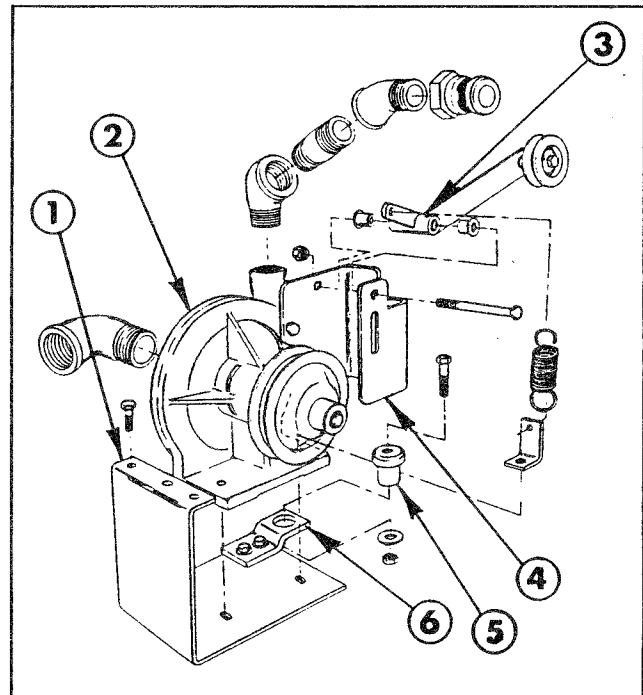
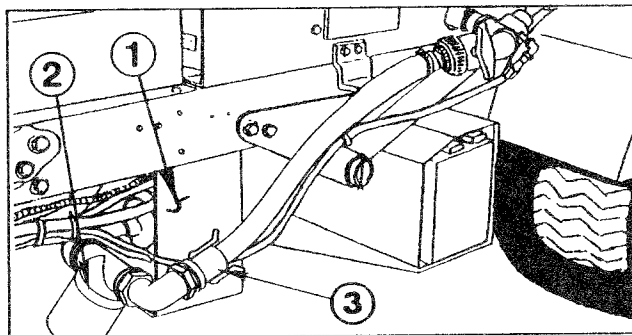

FIG. 2
FIG. 4
4. Attach the idler pivot bracket to the pump by removing the two pump housing bolts and replace with the (2) 3/8" x 1" hex hd. cap screws (FIG. 2).
5. Install one flange bushing into each end of the idler pivot assembly mounting hole and attach to the idler bracket using the 3/8" x 3" hex hd. cap screw and locknut (FIG. 2)
6. Mount the small inside idler pulley on the long arm of the idler pivot using the 3/8" x 2-3/4" hex hd. cap screw, 1-1/8" spacer, and locknut. Attach the tension spring to the short arm of the idler pivot assembly. See FIG. 2.
7. Next, apply sealer and install the 90 degree x 1-1/4" street elbow into the suction port of the pump. Apply sealer and install the 1"x 3" nipple, (2) 45 degree x 1" elbows, and quick adapter into the discharge port of the pump (FIG. 2).
8. Install the rubber mount into the tab mount and loose fit the tab mount to the pump mounting bracket using the (2) 3/8" x 1" hex hd. cap screws, flatwashers, and locknuts (FIG. 2).
9. Attach the pump mount bracket assembly to the left side of the vehicle frame using the (3) 5/16" x 1" hex hd. cap screws, lockwashers, and hex nuts (FIG. 4). Next, attach the tab mount to the crossmember using the 3/8" x 1-1/4" hex hd. cap screw, 3/8" I.D. 10 GA. flat washer, and locknut (FIG. 2). Tighten all fasteners securely.
11. Mount the pump and the spring tab to the mounting plate using the (2) 3/8" x 1-1/2" hex hd. cap screws, flat washers, and locknuts. Attach the spring to the spring tab located at the base of the pump (FIG. 2).
12. Apply thread sealer and install the 1-1/4" close nipple, suction strainer, reducing nipple, 90° st. elbow, and quick adapter into the suction side of the pump (FIG. 4).